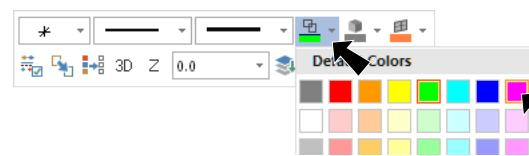

Fig. 9
- Step 8. Right click in the graphics window and on the Mini Toolbar click **Wireframe Color**  drop down arrow and select magenta, Fig. 9.